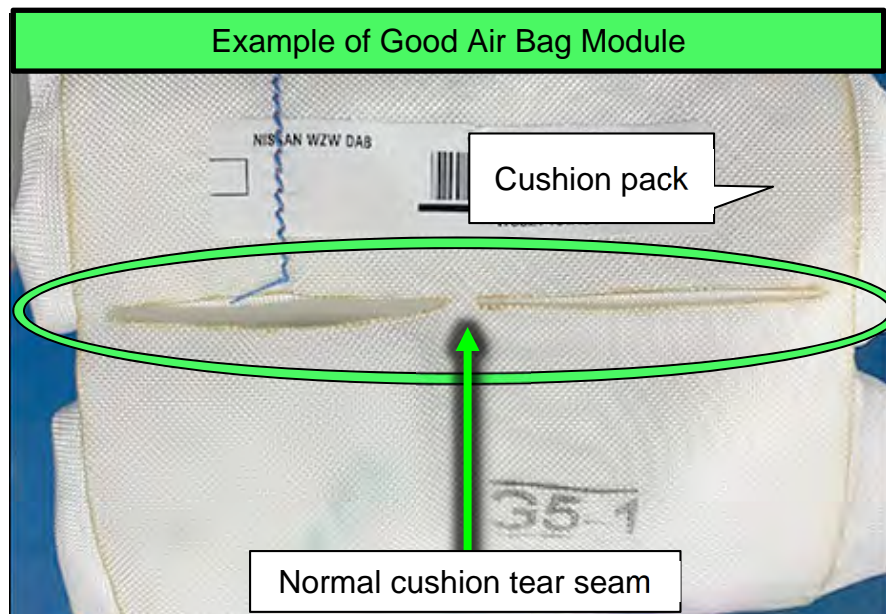

Figure 19
- One or more of the cushion tear seams (Figure 19) is damaged or separated.